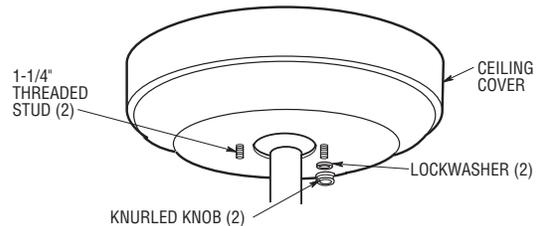

Figure 26
- 2. Lift the ceiling cover up to the threaded studs and turn until studs protrude through the holes in the ceiling cover (Figure 26).
- 3. Secure the ceiling cover in place by installing two lockwashers and two knurled knobs (supplied) (Figure 26). Tighten the knurled knobs securely until the ceiling cover fits snugly against the ceiling and the hole in the ceiling cover is clear of the downrod.